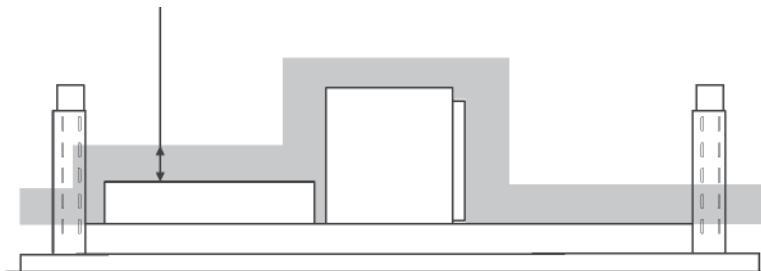

FIG. 1
10. Type Non-IC Installation: Thermal insulation shall not cover top of range hood housing and must be spaced 3-inches (76mm) from all sides. (Fig. 1)